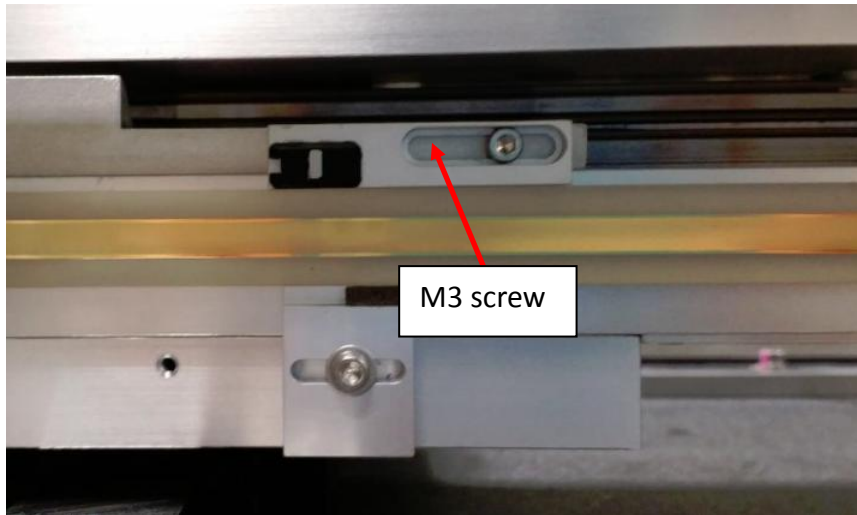

Figure 6 Home Sensor M3 Screw
- Loosen the M3 screw as shown below in the Figure 6.
- Once home sensor adjustment complete, tighten M3 screw as shown in Figure 6.